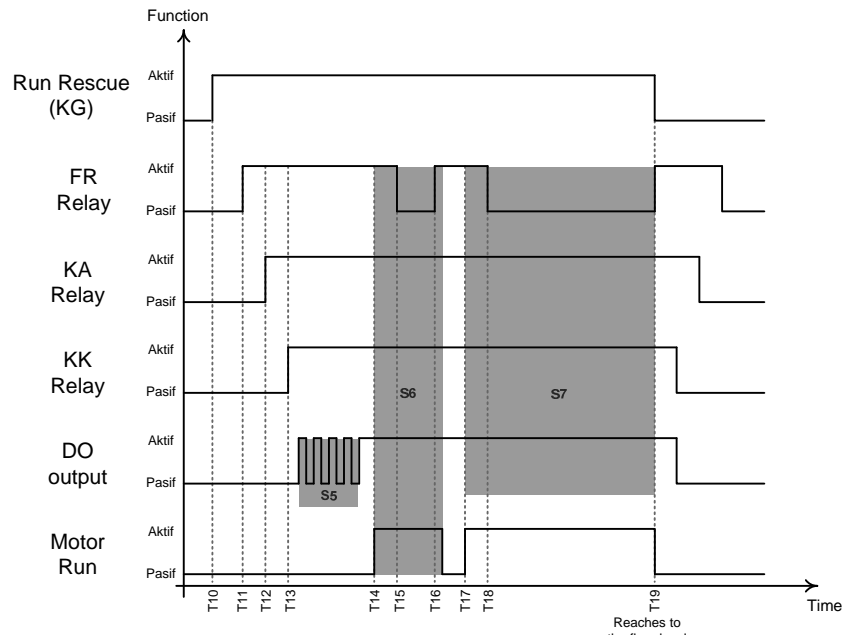

Figure 2: Process Controlled by GuvenCE Emergency Rescue System.
2. The process which controlled by GuvenCE Rescue described below. (See Figure 2).